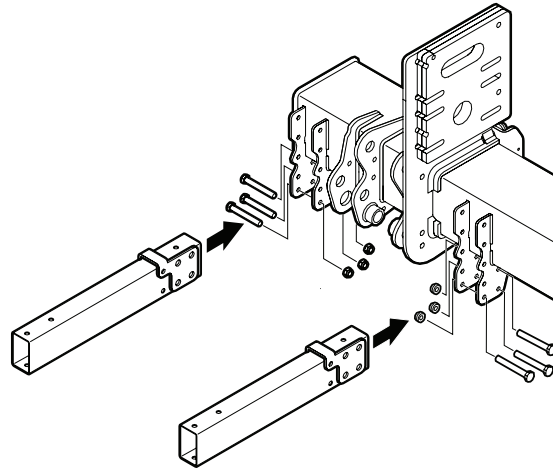

Figure 52. Installing brackets on the frame
1. Install the brackets on the tail lift frame using 3 x M12x100 bolts each, without tightening them. See Figure 52.